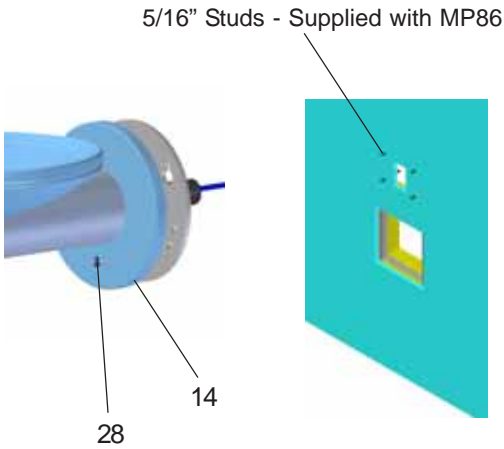

Figure 5 - EDFPB114C Fountain Installation
3. **Install fountain.** Remove screw (Item 28) from cover plate and slide cover plate (Item 14) toward basin. Mount the fountain to the wall and mounting plate with (4) 5/16" hex nuts (provided with mounting plate). Tighten securely. (See Figure 5)